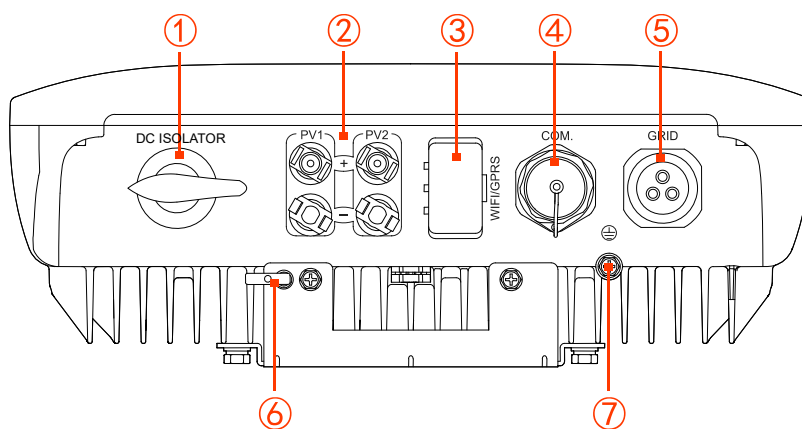

Figure2-5 Bottom view
The external terminals are all located in the bottom of the inverter, including PV input, AC output, communication port and DC ISOLATOR, etc, as shown in Figure2-5.
DC Isolator (as shown in Figure2-5 ①) is the connection switch of inverter and PV array. When the inverter works normally, the DC Isolator must be ON. During installation and wiring, the DC Isolator must be OFF. Before maintenance, the DC Isolator must be OFF for 20 minutes, and measure the voltage of DC busbar by multimeter, only when the voltage less than 10V, the maintenance can be done.